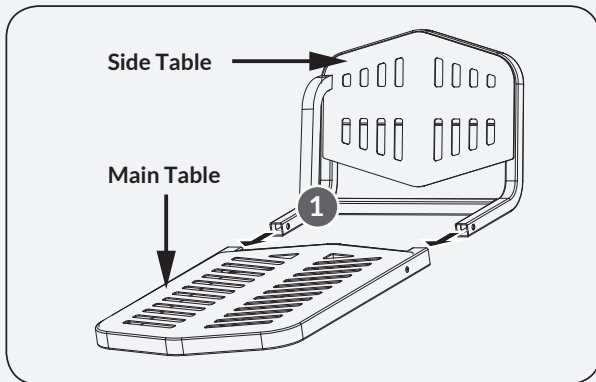

Figure 18a
1. Assemble the side table and the main table together to ensure that the hole positions at the connection are aligned. (See **Figure 18a**, illustration 1)